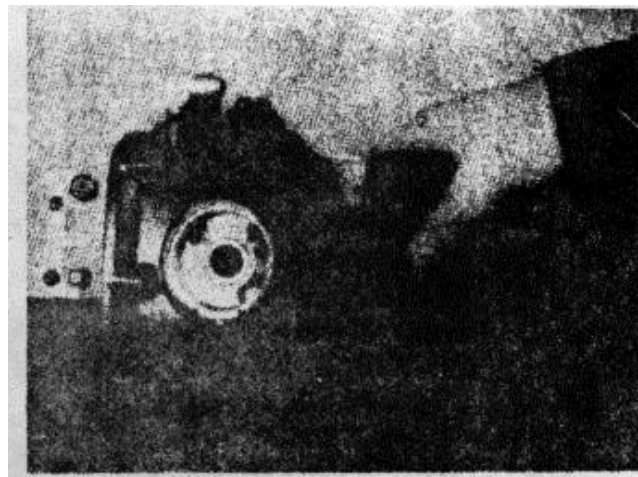
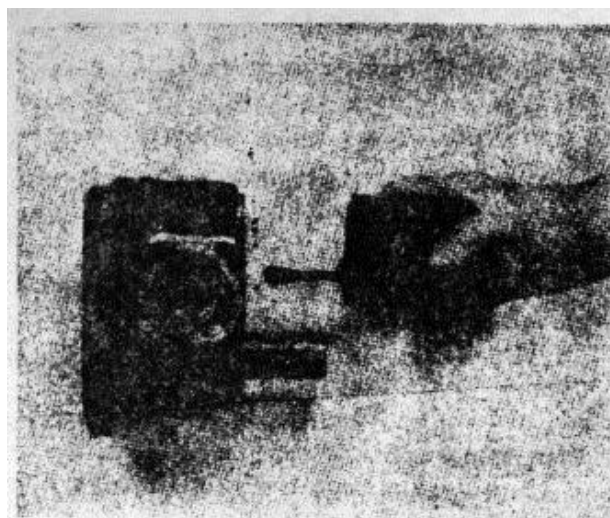

Figure 4-10. Removing the gear pump (A)
Figure 4-11. Remove the gear pump (B)
- Fig. 4-10 and Fig. 4-11. There are two types of gear pump drives now in service and with minor changes they can be used interchangeably.